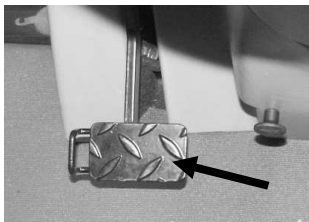

Figure 5-4 Clutch pedal.
- press clutch pedal to until resistance is felt (Figure 5-4);